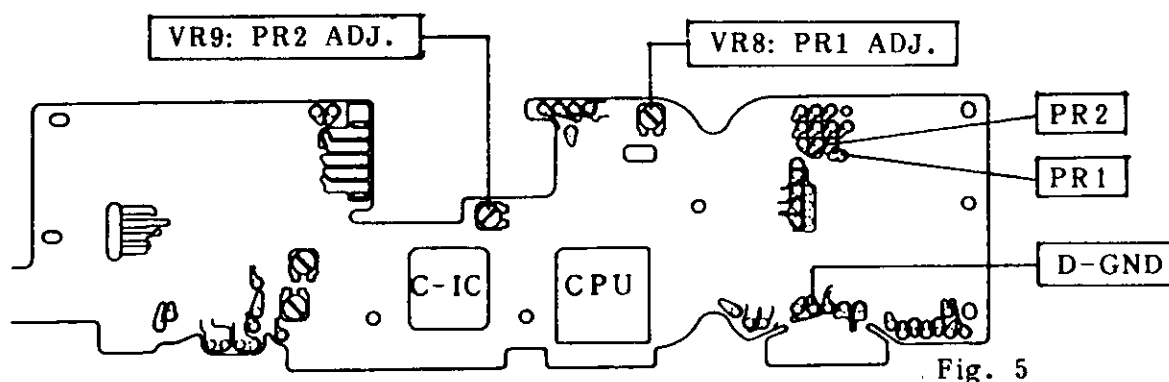

Fig. 5
Remove (1) through (8) on pg. 7, mount a camera, and attach test leads to the main flex at PR1, PR2 and D-GND (Fig. 5).